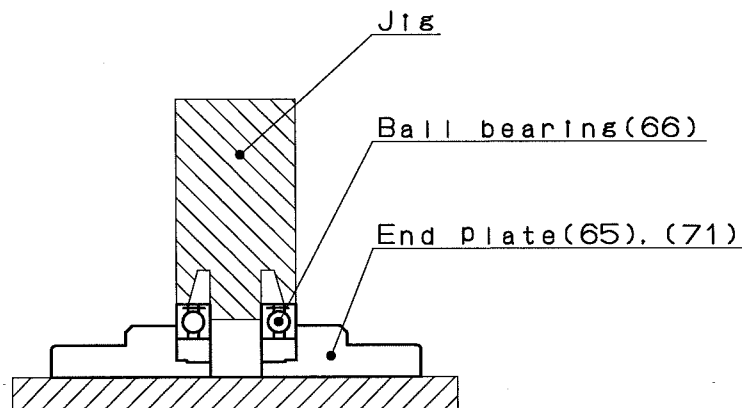

Fig.21
- ① Press Ball bearing(66) into the bearing recess on each End plate(65),(71) using a jig and hand press (See Fig. 21).